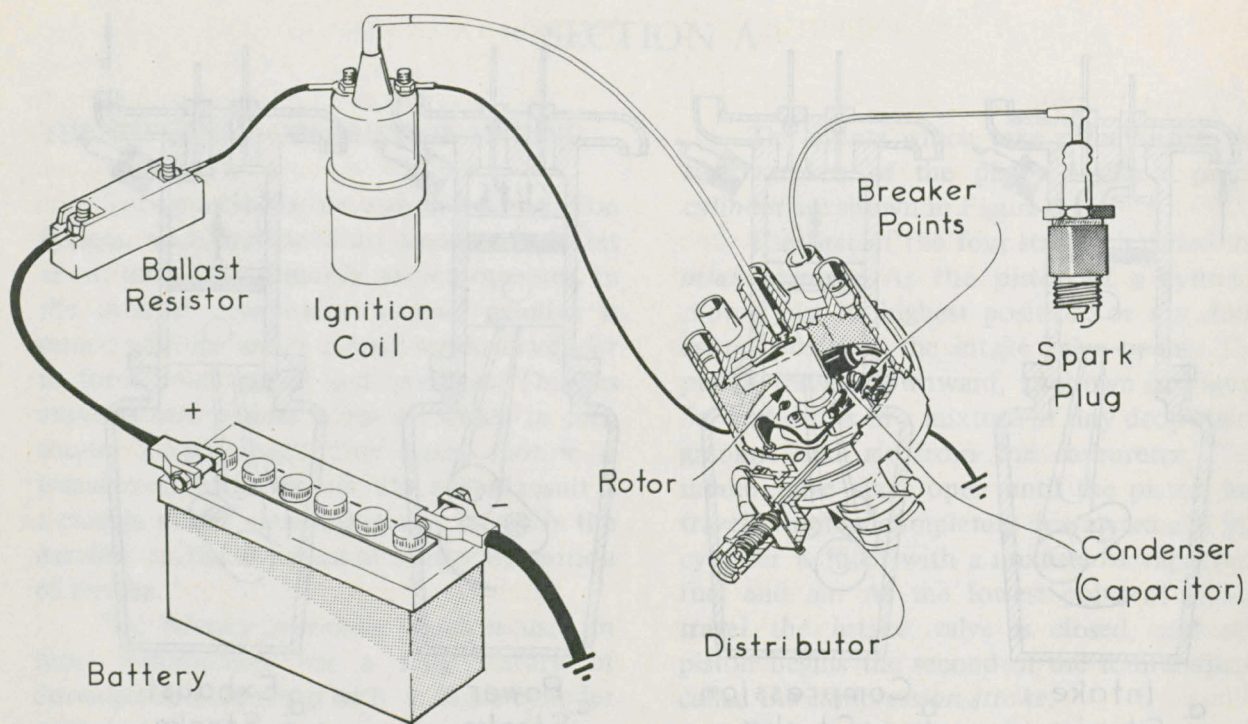

Figure 6.
The ignition system accomplishes these things with five main components: the *battery*, the *coil*, the *distributor*, the *ballast resistor*, and the *spark plugs*. The coil takes electrical energy at low voltage [e.g., 12 volts (V)] from the battery and changes it into electrical energy at high voltage (e.g., 20,000 V). The distributor switches the coil on and off at the right times, and it routes energy to the plugs. The plugs then ignite the air-fuel mixture. The entire system, including the balast resistor which prevents too-high currents, is shown in Figure 6. At this point you may familiarize yourself with the ignition system by completing Experiment A-1.
The purpose of this experiment is for you to familiarize yourself with the principal components of the ignition system of an automobile. First you should examine the system and identify the following components. Figure 6 will be very helpful for doing this.